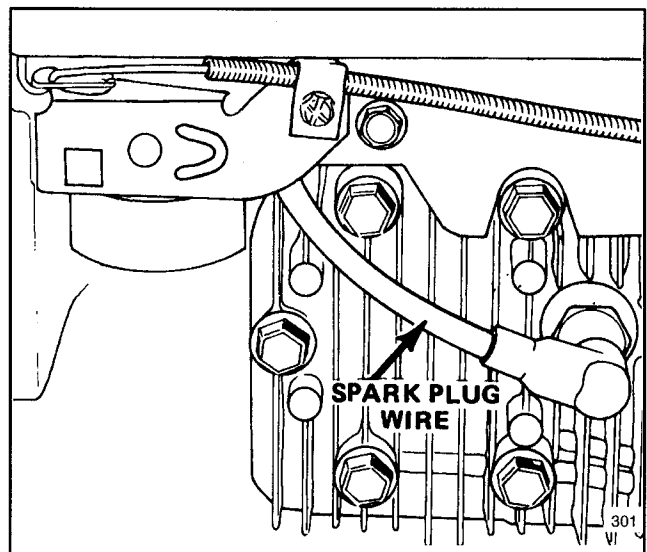

Figure 11
1. Stop the engine and pull the wire off the spark plug (Fig. 11).
1. Stop engine and pull wire off spark plug (Fig. 11).